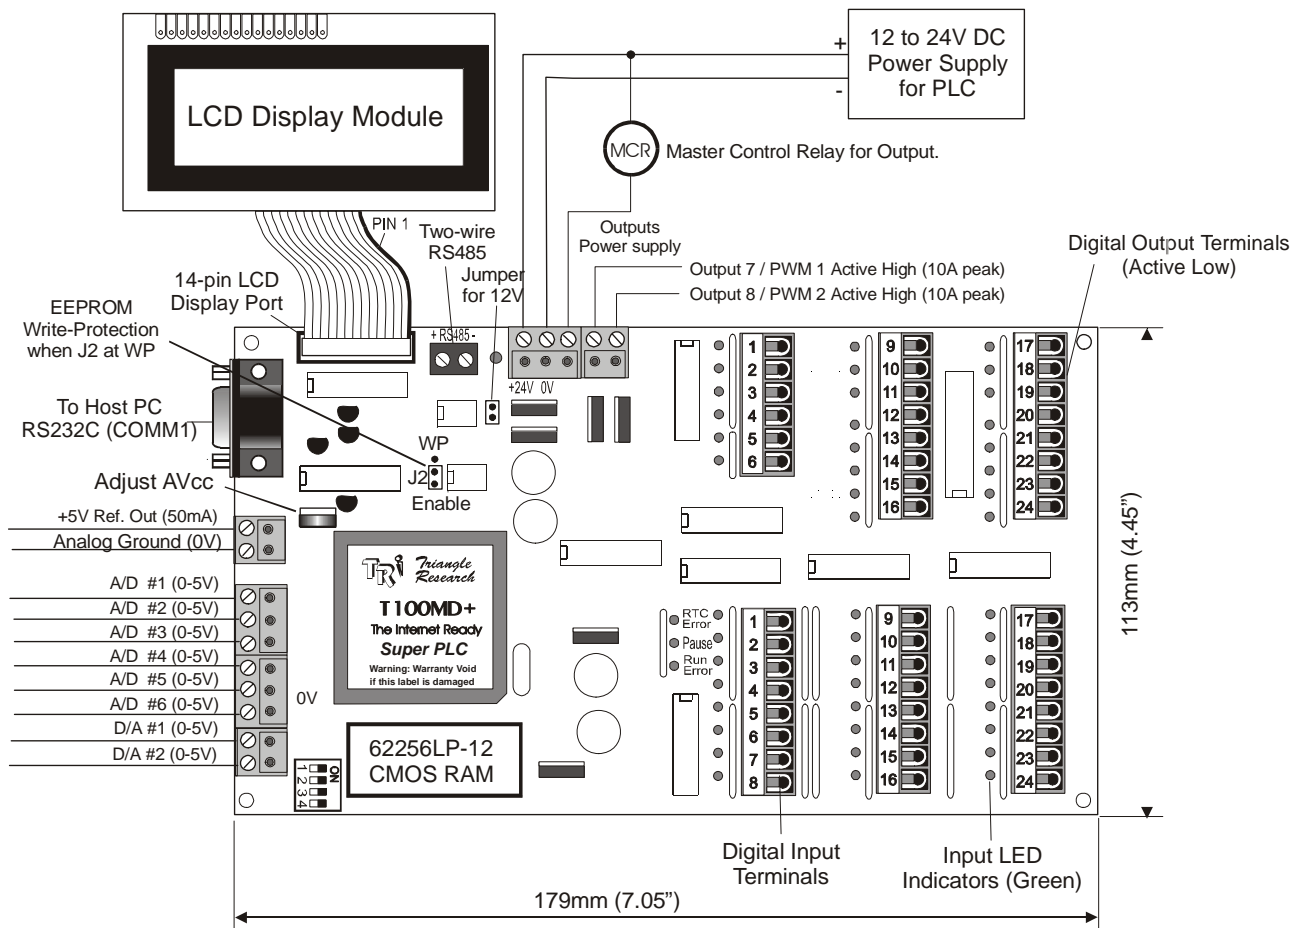

Figure 1 - T100MD-2424+ and a LCD Module
**Analog I/O Ports:** The 8 channels of analog I/Os are available via an 8-way detachable screw terminal connector along the left edge of the T100MD2424+ PLC. The PLC also supplies a +5V analog reference-voltage output and the analog ground on a separate two-way detachable screw terminals as shown in Figure 1.
The T100MD2424+ PLC requires a single regulated, 12 to 24V (+/- 5% ripple) DC power supply for both the CPU and the I/Os (as shown in Figure 1). To use the T100MD2424+ at 12VDC you should place a jumper block on the two-pin header marked "J1-12V" near the power supply terminals. You must remember to remove the jumper when operating the PLC above 18V, otherwise the voltage regulator may overheat. (**Important:** see Section 4 for the MCR power supply requirement.)